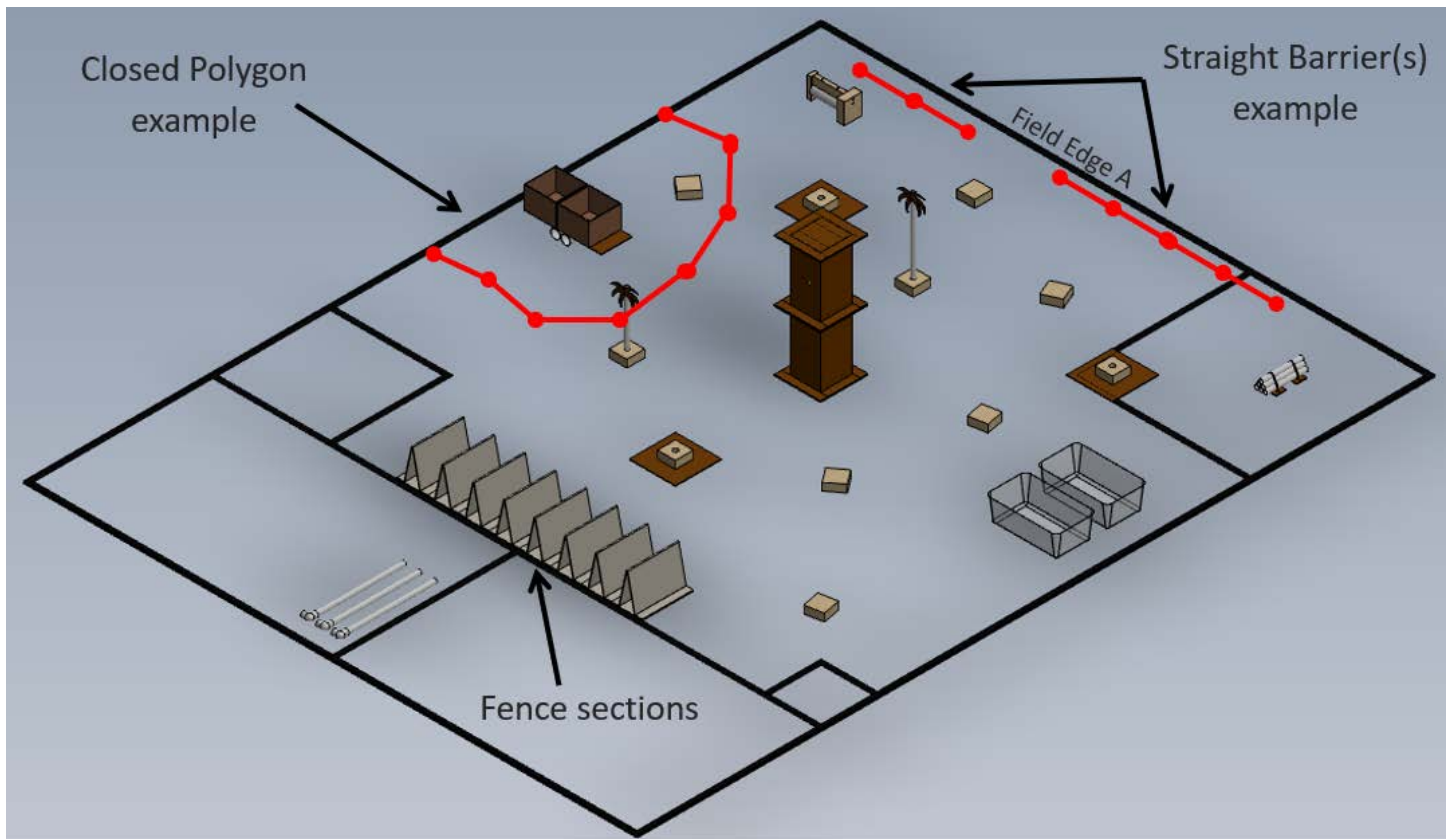

Figure 3.16 Fence Construction Options
- a. Fencing may be constructed in one of two locations, or both locations, as shown in the Figure 3.16 example:
- d. For the *Straight Barrier* fencing, the distance (gap) between the closest point of a fence panel and the outer edge of the tape defining the Field Edge A (see Figure 3.16) must be no greater than 10”. If the distance is greater than 10”, the fence panel and its connections are invalid. (*Evaluation note:* Use the long edge of another fence panel to measure the distance).
- d. *Secured*: Points are awarded if the air compressor is inside the closed-polygon fencing (see Figure 3.16) and is touching the floor.